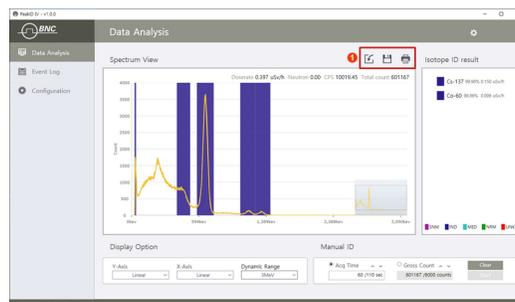

Figure 7.7.11. Data Analysis Menu Function Buttons
1. Click the disk icon  (Figure 7.7.11). The directory screen will appear.